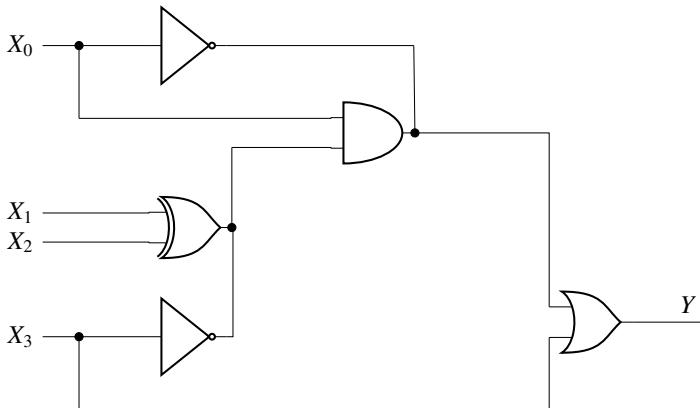

Fig. 3.31
47. The logic gates shown in the digital circuit below in Fig. 3.31 use strong pull-down nMOS transistors for LOW logic level at the outputs. When the pull-downs are off, high -value resistors set the output logic levels to HIGH (i.e. the pull-ups are weak). Note that some nodes are intentionally shorted to implement “wired logic”. Such shorted nodes will be HIGH only if the outputs of all the gates whose outputs are shorted are HIGH.